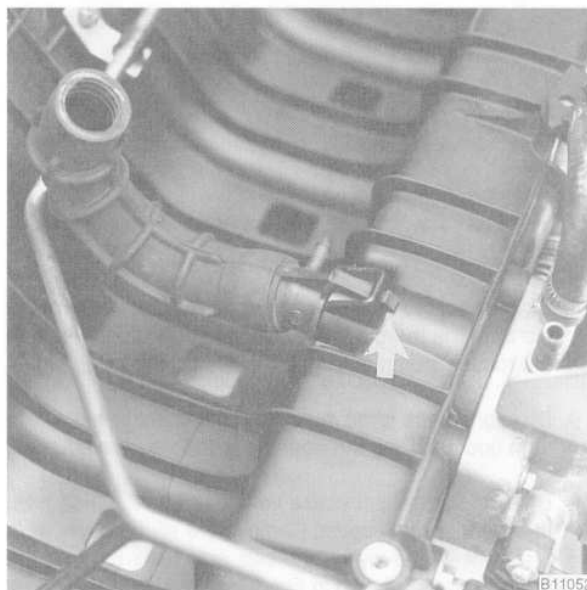

Fig. 13. Idle air hose at underside of intake manifold. Gently depress retaining clip (**arrow**) and pull out hose fitting.
16. Working from the underside of the intake manifold, disconnect the large idle air hose from the intake manifold, see Fig. 13.